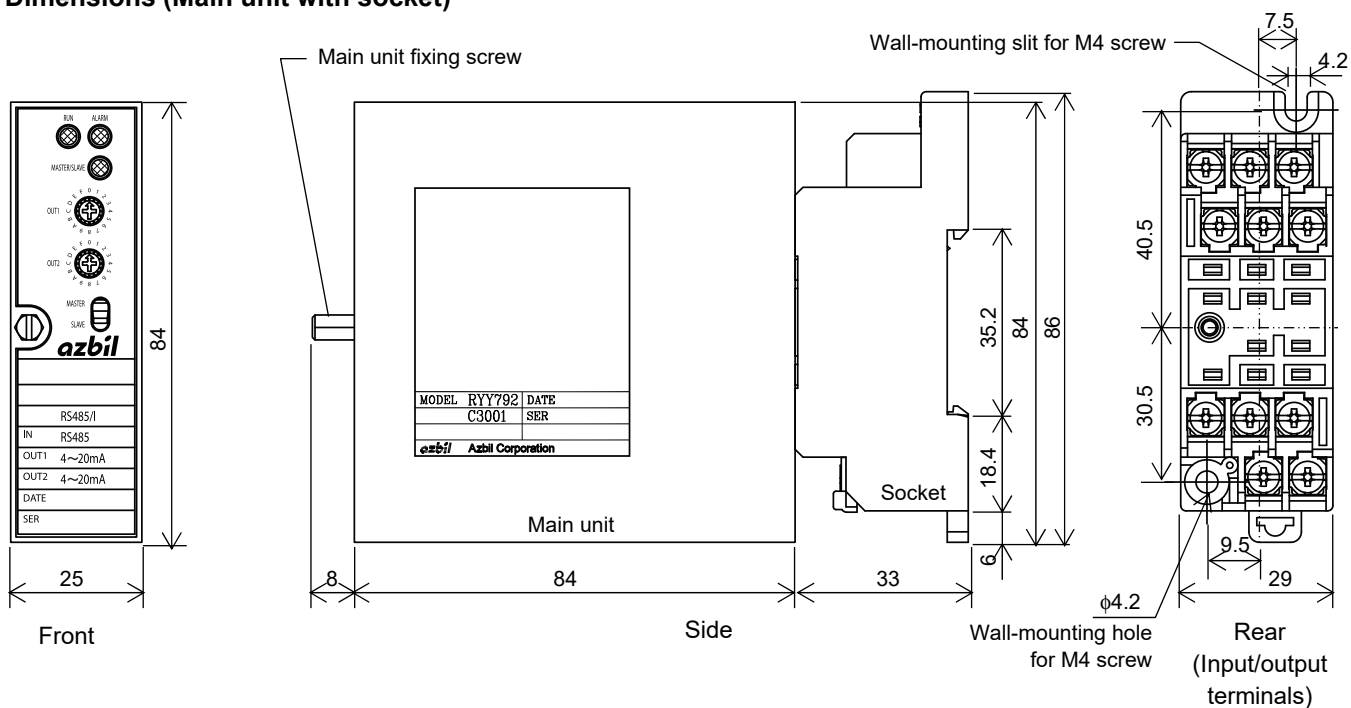

Figure 2. Dimensions (mm): Main unit with socket
Dimensions	Refer to Fig. 2.
Accessory	Dedicated socket (Refer to Fig. 2.)
- 1) Mount the socket on a panel with a DIN rail or with the screws. To mount the socket with the screws, refer to Fig. 2. When you mount the socket, be careful with the orientation so that the socket is not mounted upside down. M4 × 15 screws are necessary to fix the socket.
Refer to Figs. 2 and 3 to connect the wires.